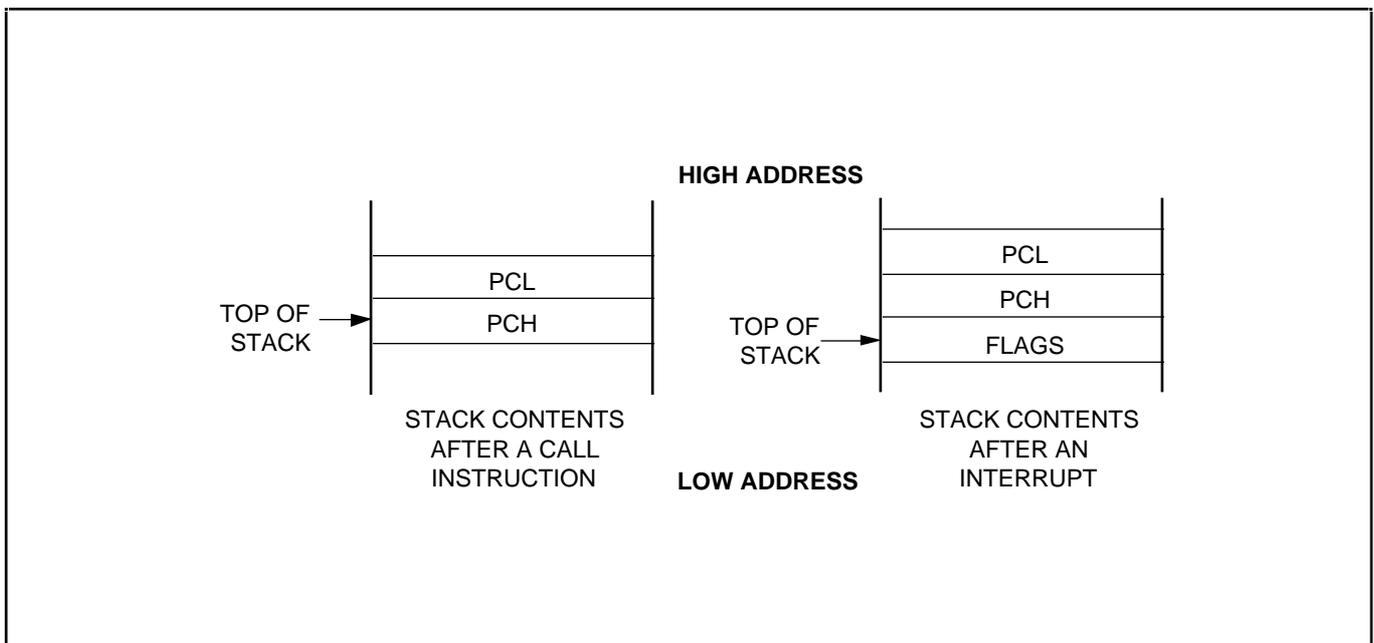

Figure 2–15. Stack Operations
The stack address is always decremented *before* a push operation and incremented *after* a pop operation. The stack pointer (SP) always points to the stack frame stored on the top of the stack, as shown in Figure 2–15.